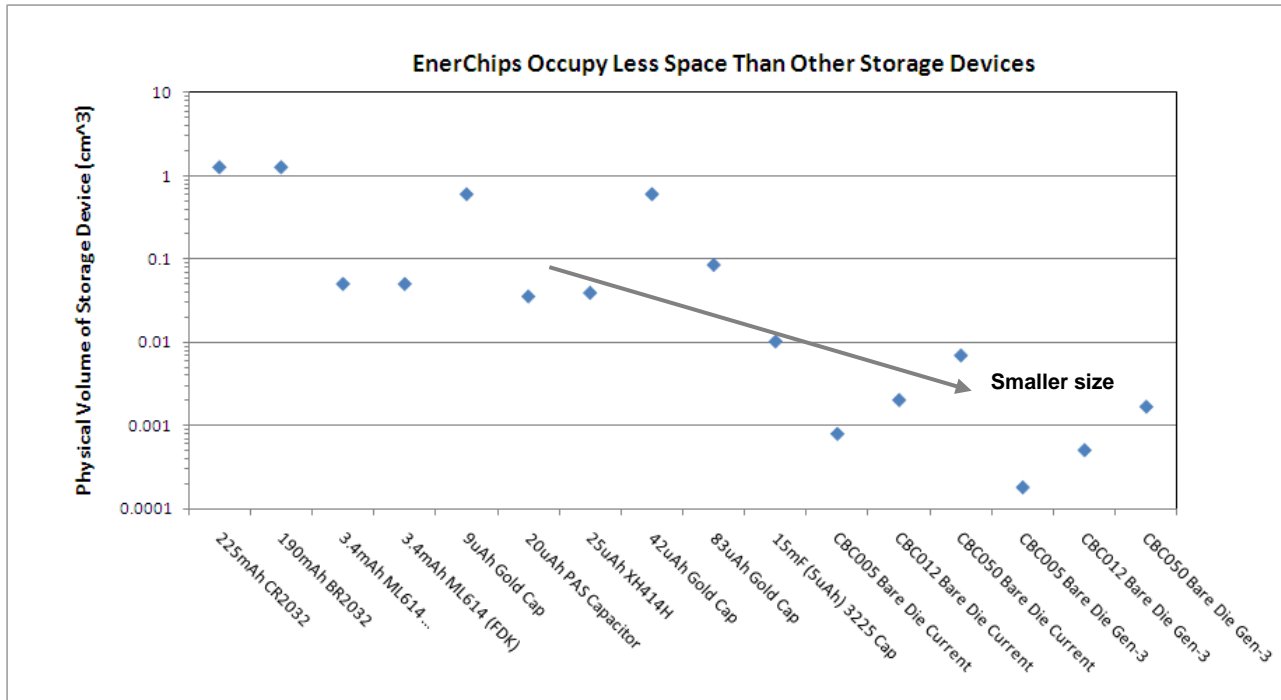

Figure 4: Comparing Device Volume (cm³) of Coin Cells, Supercapacitors and EnerChips
- Compare the size of the energy storage devices in terms of board footprint and height: Footprint x thickness = device volume. Figure 4 shows the comparison of a variety of commonly used Coin Cells, Supercapacitors and EnerChips that would be used in power back-up applications. Each of the devices has the energy storage capacity to perform the energy transaction required by the back-up application. **Note that EnerChips have smaller physical volume compared to Supercapacitors.**